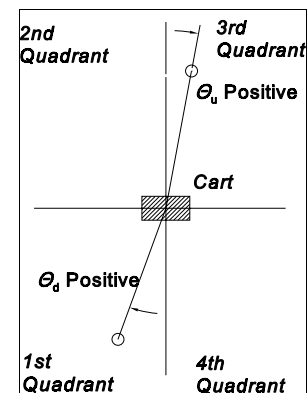

Figure 8.3.2 Up and down positions and their directions
This block converts the measurement of the pendulum angle from the “Full” position to two other frames of reference shown in figure 8.3.2 and 8.3.3.
- Pendulum Full angle is in 2nd or 3rd quadrant as defined in Figure 8.3.2